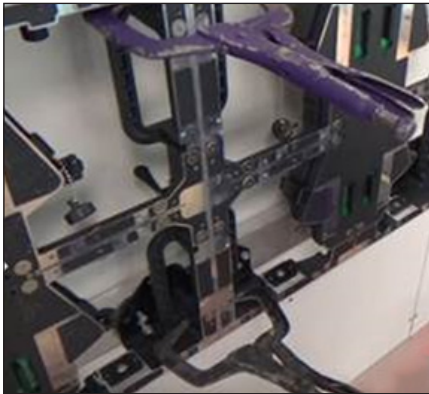

Figure 9: Clamp Panels Together
5. Position the next panel beside the existing panel and then clamp the panels together. Refer to **Figure 9**.